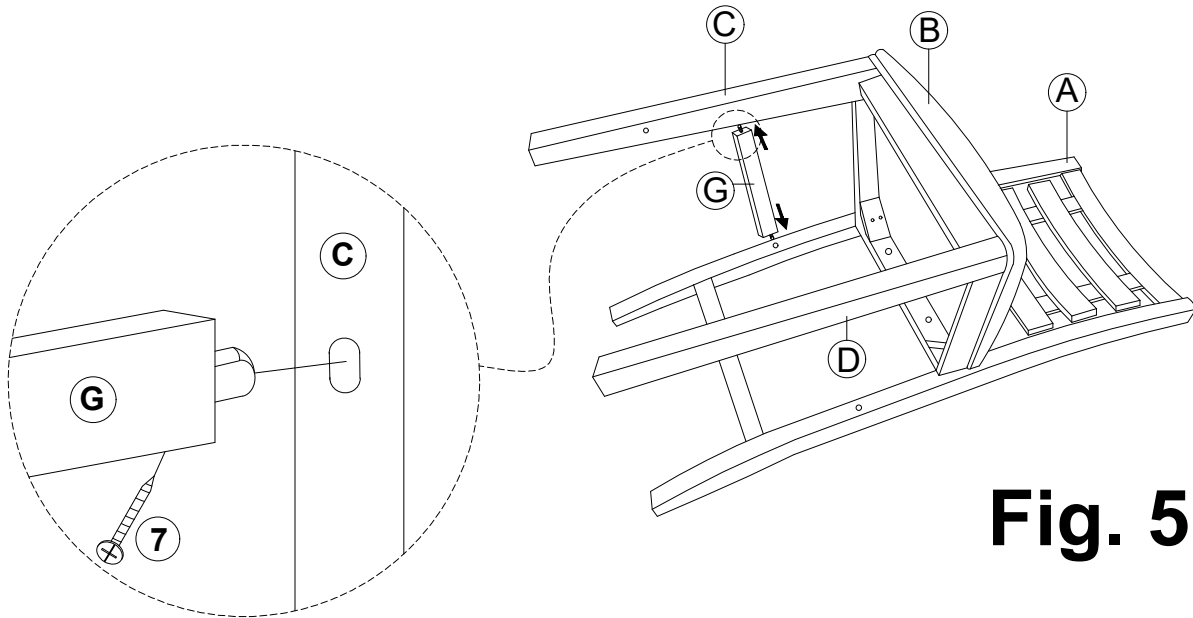

Fig. 5
Step 4: Attach Side Stretcher (G) to Front leg (C) and chair back (A) using the provided hardware as shown Fig.5.